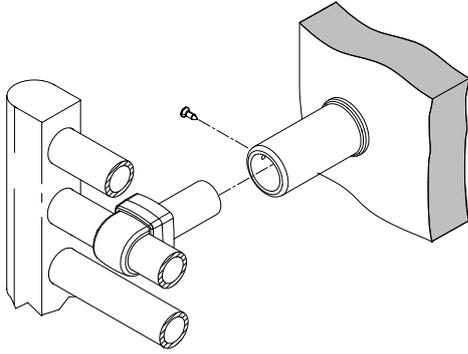

Fig. 6
Lift the towel rail complete with the bracket assemblies and align with the outer bracket sleeves which were previously fixed to the wall. Insert the inner sleeve brackets into the outer sleeve brackets and fix in place using the position locking screws (E). The rail is then locked in place by rotating the pins a quarter turn - see **Fig. 6**.